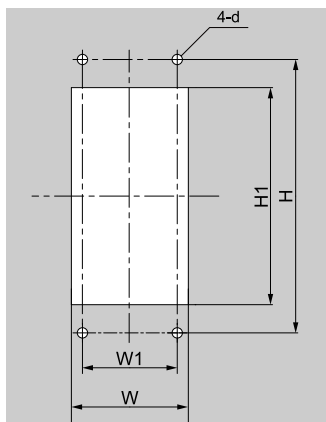

Figure 5.9 Internal/Flush-Mount Enclosure Panel Cut-Out Dimensions
1. Use the dimensions in Table 5.3 and Figure 5.9 to cut an opening and tap two holes in the enclosure panel.